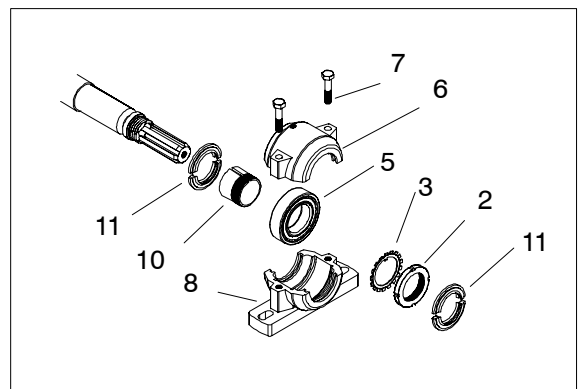

Fig. 14. Bearing, splined shaft side.
- The bearings at the feeder side and splined shaft side are different from each other. The bearing at the splined shaft side, Fig. 14., does not have spacer rings (4 and 9) and an end plate (1). The bearing at the splined shaft side has dust covers on both sides (11).